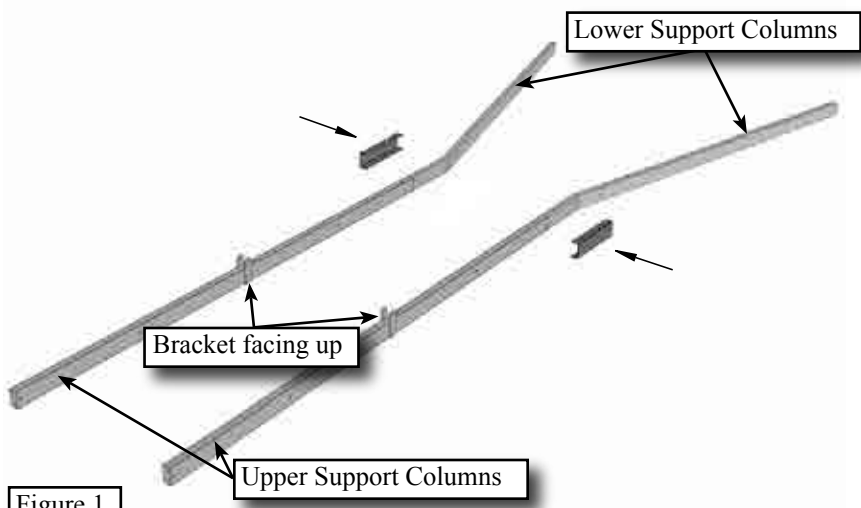

Figure 1
Step 1. Position the two upper and the two lower support columns as shown in **Figure 1**. Please note the correct orientation of the welded brackets.